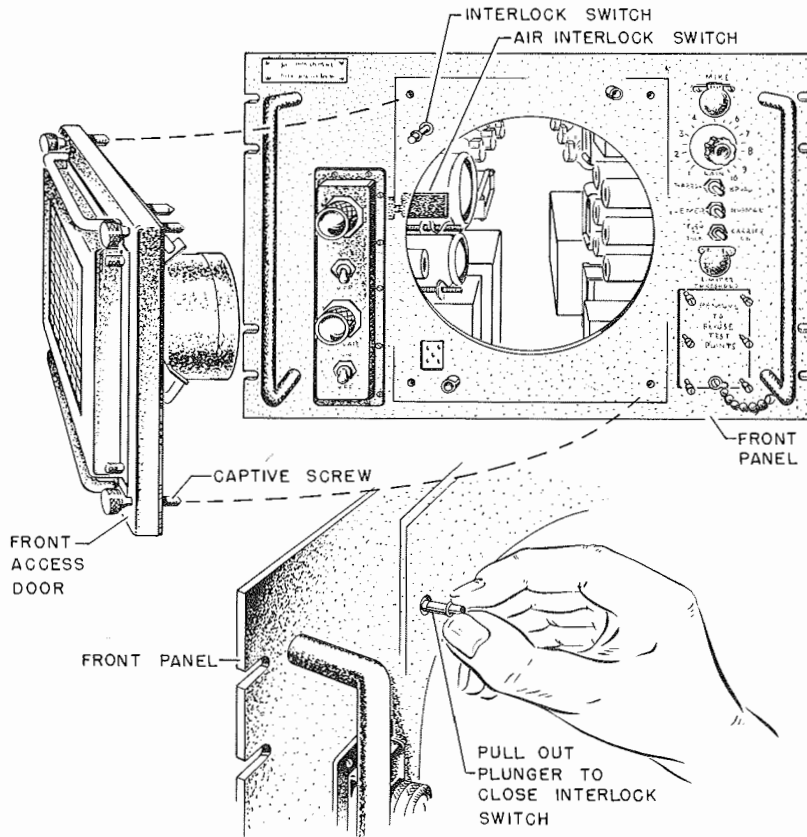
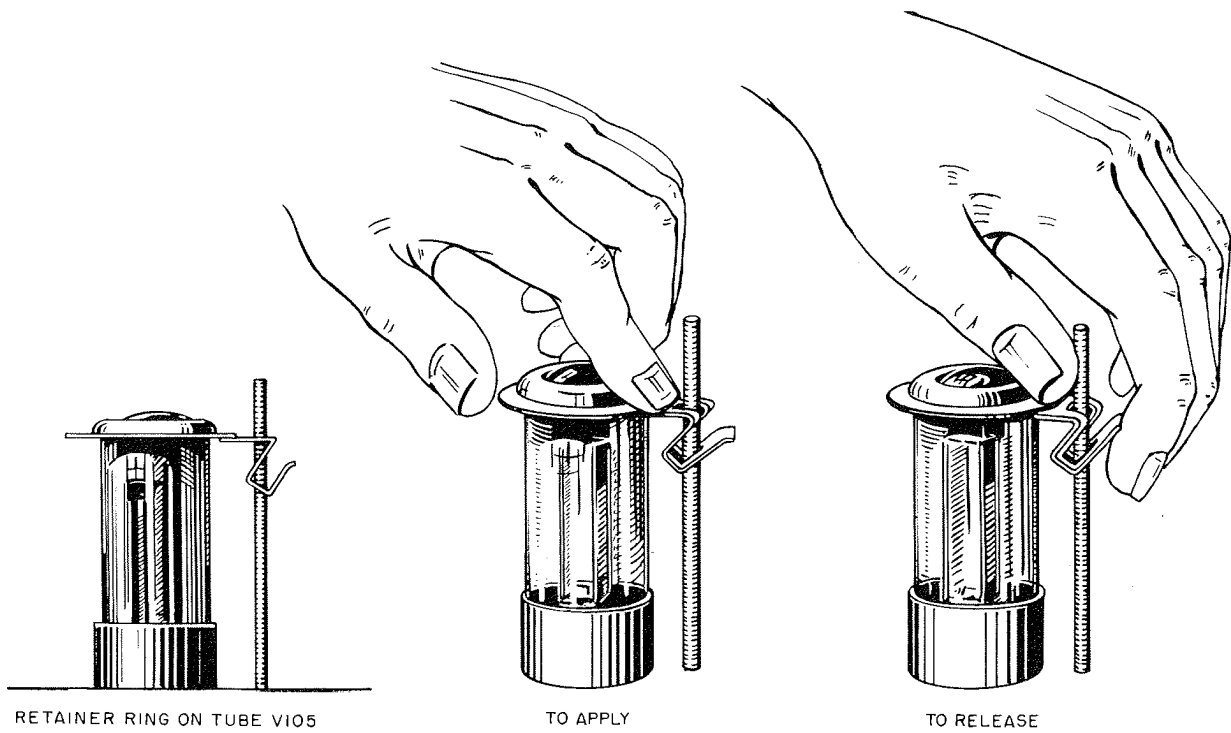

Figure 5-11. Modulator-Power Supply, Removal of Front Access Door and Emergency Operation of Interlock Switches
Figure 5-12. Modulator-Power Supply, Operation of Retainer Rings
d. Turn the "POWER" switch to "OFF" and replace tube V105, accessible by removing the front access door of the modulator-power supply (loosen captive screws, one in each of four corners) (figure 5-11). V105 is held in position by a retainer ring, or "hat" with a ring tab which automatically locks itself into the threads of the adjacent threaded rod when the retainer ring is seated on top of the component (figure 5-12). This ring can be removed by placing the thumb on top of the threaded rod and the index finger on the outer edge of the ring tab. By pressing the thumb and index finger together, the retainer ring will come off. To replace the retainer ring, place the hole in the ring tab over the screw and apply pressure downward at the spot where the tab joins the ring. Continue exerting pressure until the ring fits snugly over the tube.
- b. Close the front access door and air interlock switches (figure 5-11).